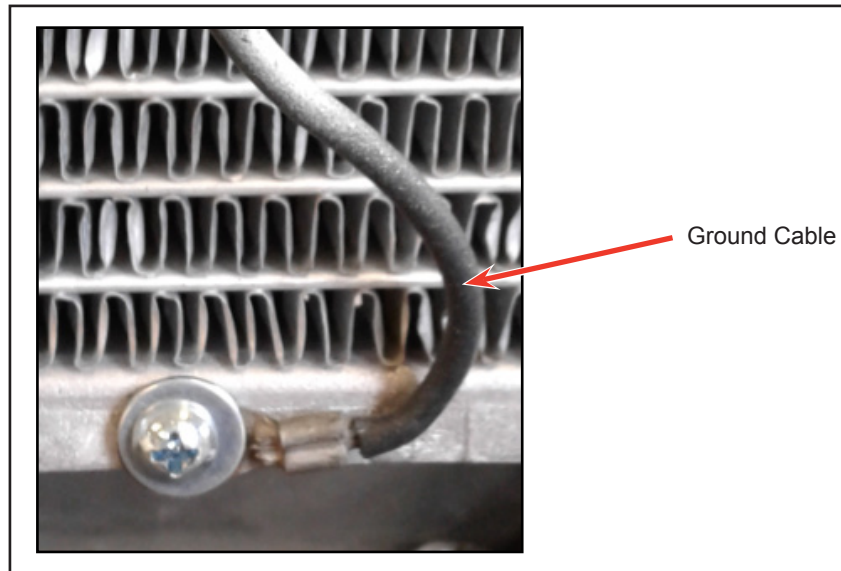

Figure 13 - Typical View of Ground Cable Connection
- 1.33. Connect the ground cable that was previously disconnected (see Figure 13).